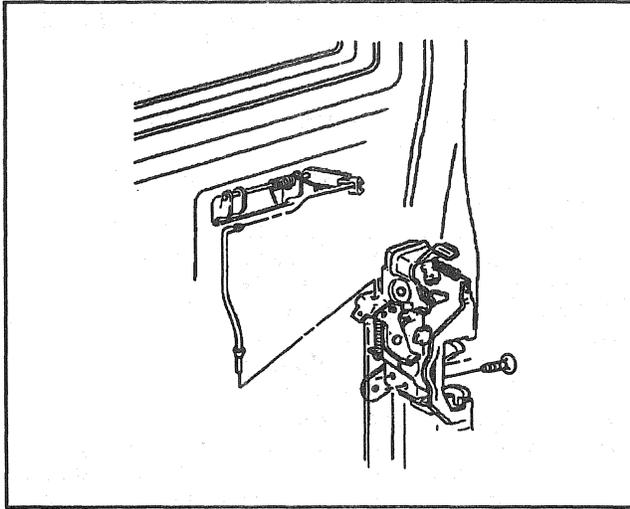

Figure 71—Outside Rear Side Door Handle and Lock Assembly
4. Outside door handle (Suburban, Crew Cab-threaded clip requires unsnap) (Yukon/Tahoe 4 door-push in clip) (Figure 71).